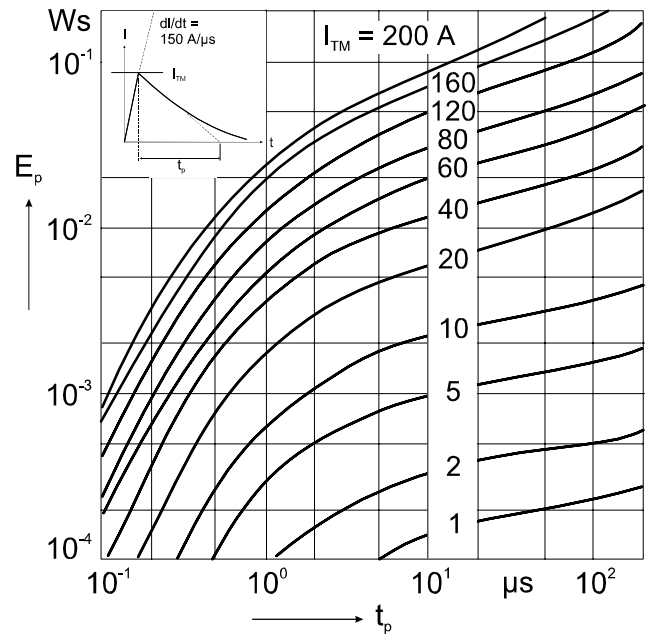

Fig. 6 Energy per pulse for single BOD element for exponentially decaying current pulse.  $E_p$  must be multiplied by number of elements for total energy.
a. The maximum junction temperature shall be calculated for a module IXBOD 1 -30R at an ambient temperature  $T_a = 60^{\circ}\text{C}$ , an exponentially decaying current  $I_{TM} = 40\text{A}$ , a pulsewidth  $t_p = 2 \mu\text{s}$ , an operating frequency  $f = 50 \text{ Hz}$  and natural convection. From the diagram Fig. 6 the energy per pulse is obtained: